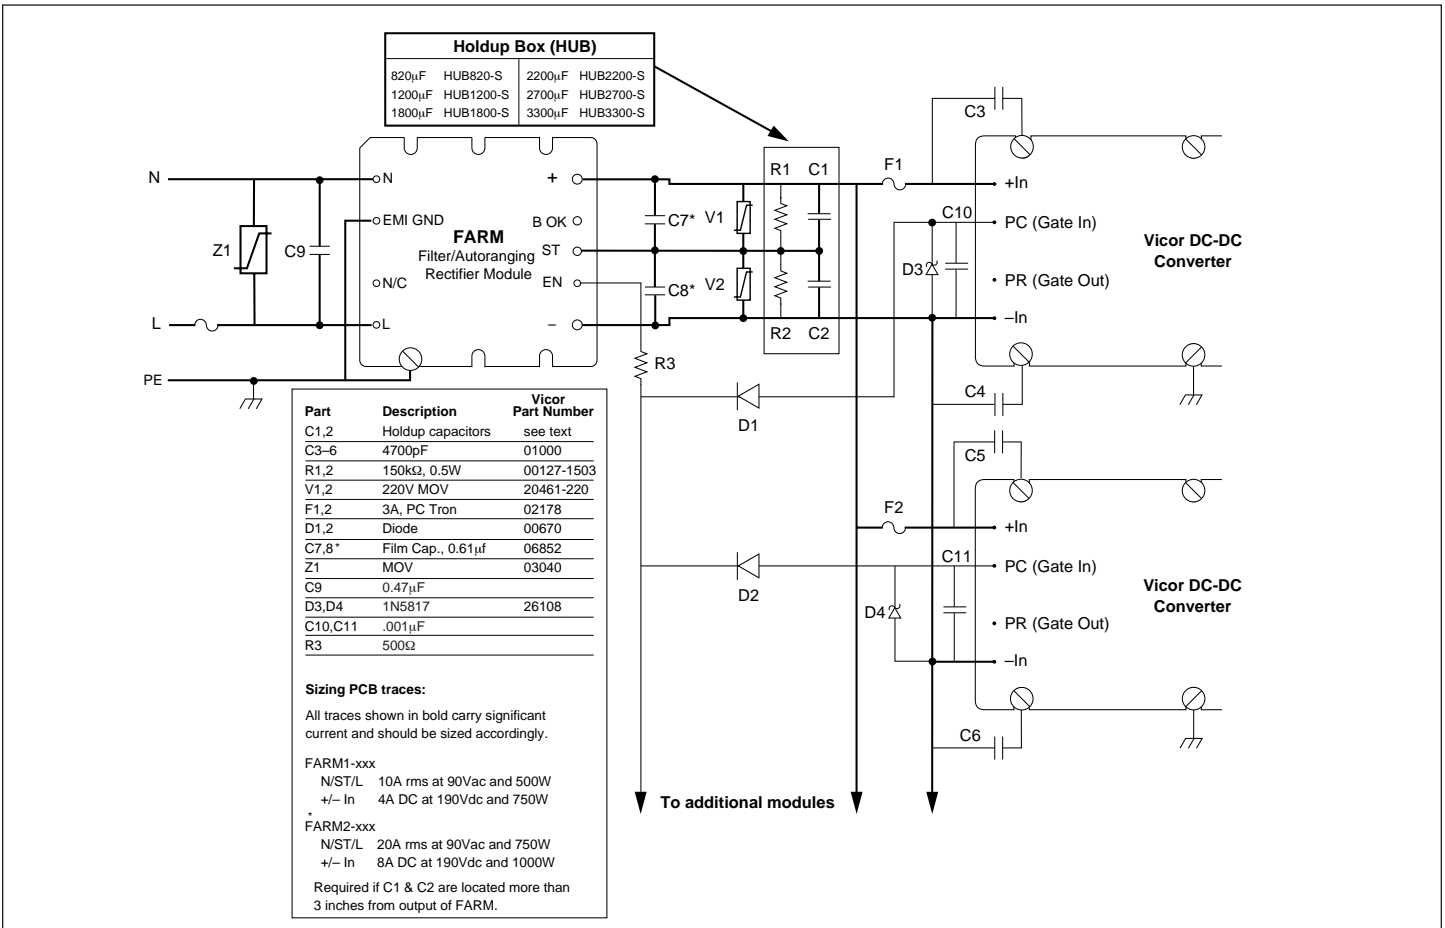

Figure 9—Converter connections
**Strap (ST) Pin.** In addition to input and output power pin connections, it is necessary to connect the Strap pin to the center junction of the series hold-up capacitors (C1, C2, see Fig. 9) for proper (autoranging) operation. Metal oxide varistors, V1 and V2 provide capacitor protection. The bleeder resistors (R1, R2, see Fig. 9) discharge the hold-up capacitors when power is switched off. Capacitors C7 and C8 are recommended if the holdup capacitors are located more than 3 inches from the FARM output pins.
It should be noted that the series combination ( $C1, C2$ , see Fig. 9) requires each capacitor to be twice the calculated value, but the required voltage rating of each capacitor is reduced to 200V.